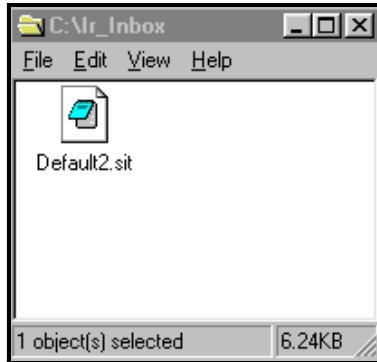

Figure 6-13: The IR_Inbox Folder with Transferred File
The screen shows a message indicating that the PT878GC is searching for an infrared device. (If the scanner finds no device, a window appears with this message, and asks if you want to try again.) If it finds a device, it sends another message indicating that it is uploading the site. (The meter also displays a message if the upload fails.) When the upload is complete, the meter returns to the Drive Manager. The PC holds the transferred file in the QuickBeam (IR) Inbox folder, as shown in Figure 6-13 on the next page. You can open the file on the PC using any text editor.